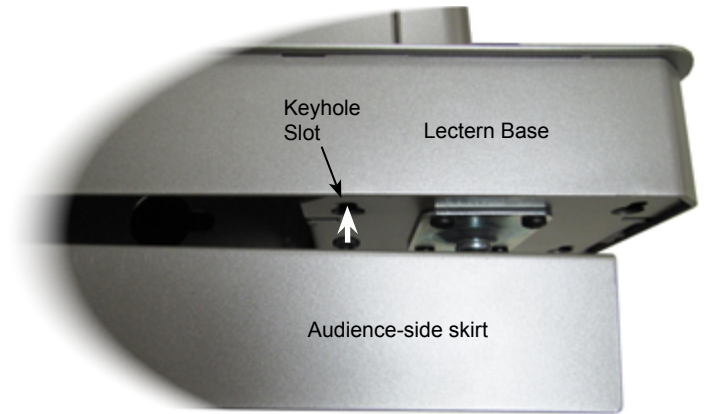

Figure 3.1
1 From the audience-side of the lectern, position the audience-side skirt as shown and hook the (2) pre-installed screws into the (2) keyhole slots in the lectern base. **Figure 3.1, 3.2.**